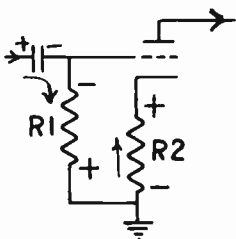

FIG. 13-6. GRID LEAK AND CATHODE BIAS.
**COMBINATION GRID-LEAK, CATHODE BIAS.** This method is a combination of grid-leak and cathode bias. See Fig. 13-6. R1 provides most of the bias voltage. R2 is placed in the circuit to act as a protective bias in case the input signal to the stage should fail. Upon loss of grid-leak bias, the increased plate current will flow through R2 developing a heavy bias voltage which will, in turn, limit the plate current to a safe value. R2 will not cause any appreciable loss of plate voltage, since its value is small. It will simply serve to bias the tube, should the grid-leak bias disappear.